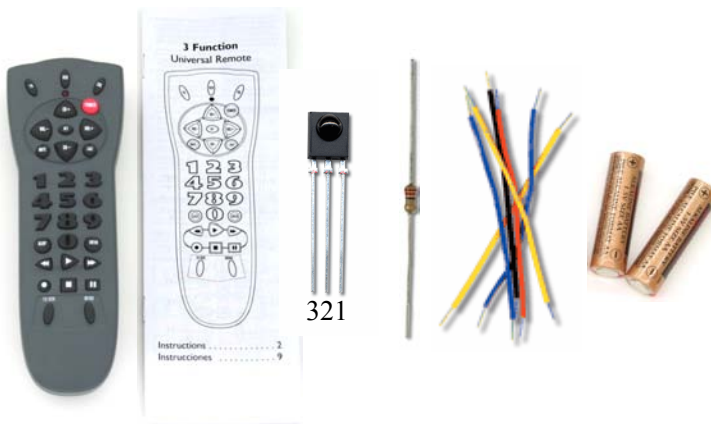

Figure 1-1
The IR Remote AppKit contains a universal remote similar to the one shown in Figure 1-1. The activities in this chapter will make use of the signals sent by a universal remote after it has been configured to control a SONY® television set. Most universal remotes can be configured to send messages to a SONY TV. If you want to try these activities with a universal remote you already own, or one purchased at a local store, you will need to read the documentation that comes with the remote to find out how to configure it to control a SONY TV.
- (1) 800-00016 Jumper wires – bag of 10
** The remote and instruction sheet/booklet may not be identical to the ones shown Figure 1-1.